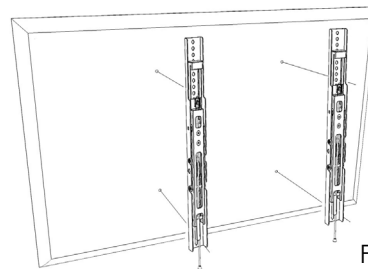

Figure 4
- Spacers(D) are commonly needed on TVs with curved backs or recessed screw inserts. The screw will thread through the appropriate washer (N), spacers, and the arms into the TV.
- Ensure the arms are installed flat side to TV, and are square to each other after all screws have been installed (Figure 4).